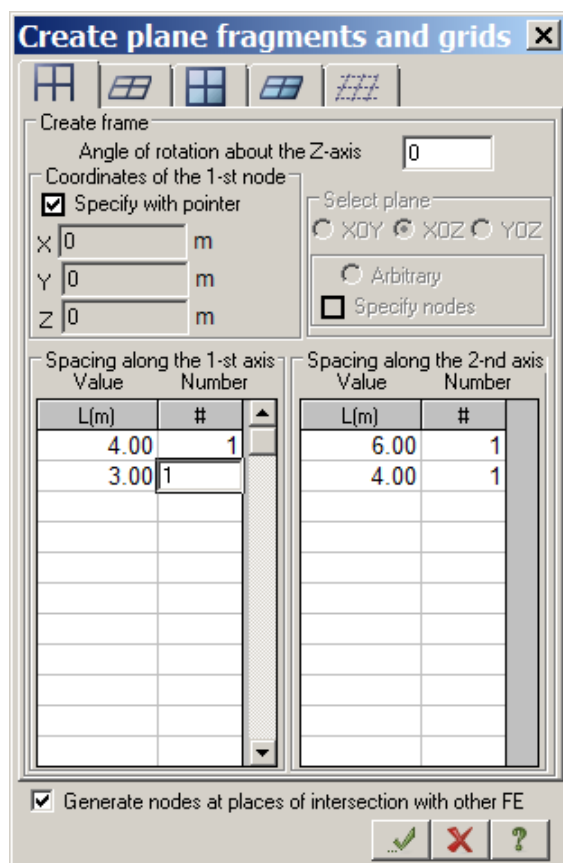

Figure 1.5 **Create plane fragments and grids** dialog box
- other parameters remain by default (see Fig.1.5).